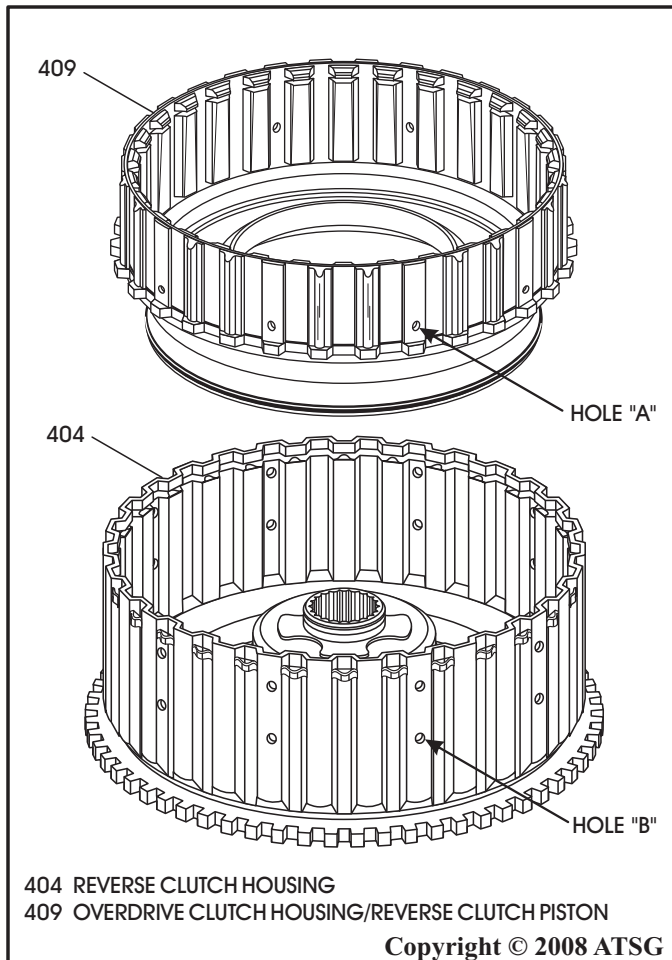

Figure 90
9. Install overdrive housing/reverse clutch piston into the reverse clutch housing, as shown in Figure 90.
Note: As you install, ensure the lube holes in the two pieces are aligned, as it is shown in Figure 90.